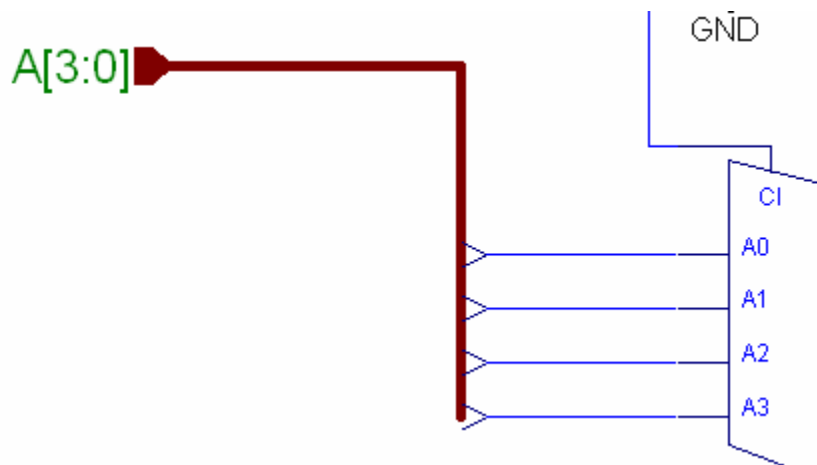

Figure 14
11. Make sure that you have labeled all your bus taps. The arrangement in Figure 14 won't work.